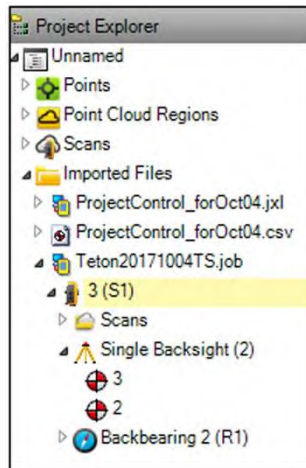

Figure 10: Project Explorer window.
- a. Expand the "Imported Files" folder under "Project Explorer." Continue to expand the ".job" file, station view, and "Single Backsight (#)." There the user will find the two merged points (Figure 10).